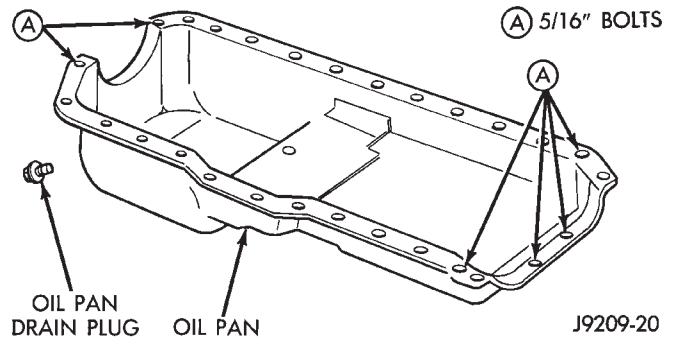

Fig. 55 Position of 5/16 inch Oil Pan Bolts
(4) Slide the one-piece gasket over the dowels and onto the block and timing case cover.
(5) Position the oil pan over the dowels and onto the gasket. If equipped with an oil level sensor, take care not to damage the sensor.
(6) Install the 1/4 inch oil pan bolts. Tighten these bolts to 9.5 N·m (84 in. lbs.) torque. Install the 5/16 inch oil pan bolts (Fig. 55). Tighten these bolts to 15 N·m (132 in. lbs.) torque.
(7) Remove the dowels. Install the remaining 1/4 inch oil pan bolts. Tighten these bolts to 9.5 N·m (84 in. lbs.) torque.
(8) Lower the engine until it is properly located on the engine mounts.
(9) Install the through bolts and tighten the nuts.
(10) Lower the jack stand and remove the piece of wood.
(11) Install the engine flywheel and transmission torque converter housing access cover.
(12) Install the engine starter motor.
(13) Connect the exhaust pipe to the hanger and to the engine exhaust manifold.
(14) Install the oil pan drain plug (Fig. 55). Tighten the plug to 34 N·m (25 ft. lbs.) torque.
(15) Lower the vehicle.
(16) Connect negative cable to battery.
(17) Fill the oil pan with engine oil to the specified level.